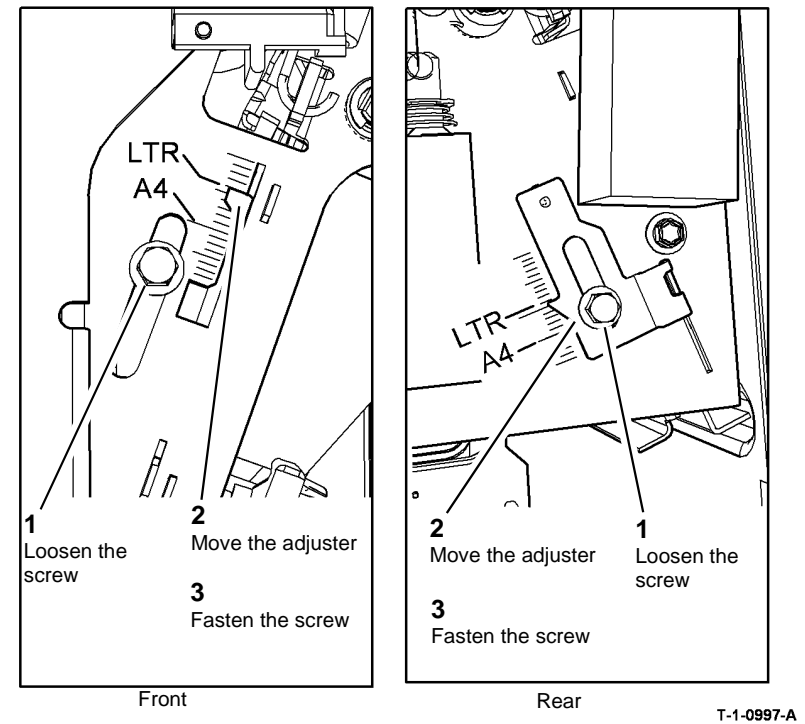

Figure 1 Tri-Folder paper setting
NOTE: Figure 1 shows the tri-folder front and rear paper setting adjusters in the 8.5 x 11 inch (LTR) position.
1. Remove the front door, PL 11.190, front cover PL 11.190 and the rear cover PL 11.190. Check that the front and rear paper setting adjusters are in position for the appropriate size of paper, Figure 1.
2. Set the front and rear paper setting adjusters to the A4 or 8.5 x 11 inch (LTR) position, Figure 1.